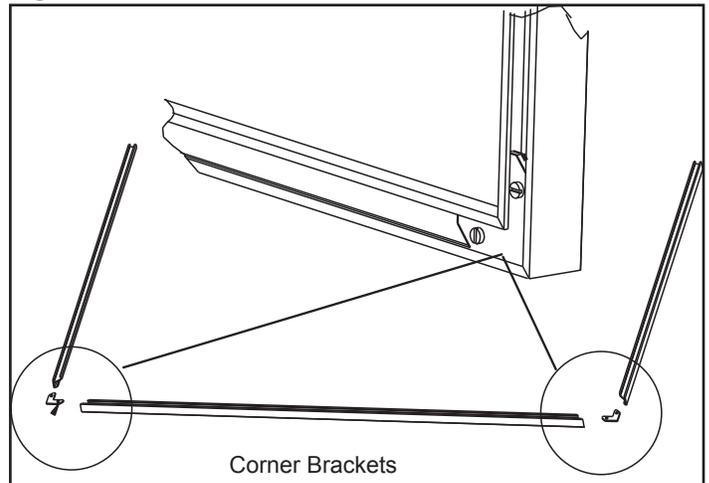

Figure 41.2
4. Using a standard flat screw driver tighten the corner brackets. **Figure 41.2.**